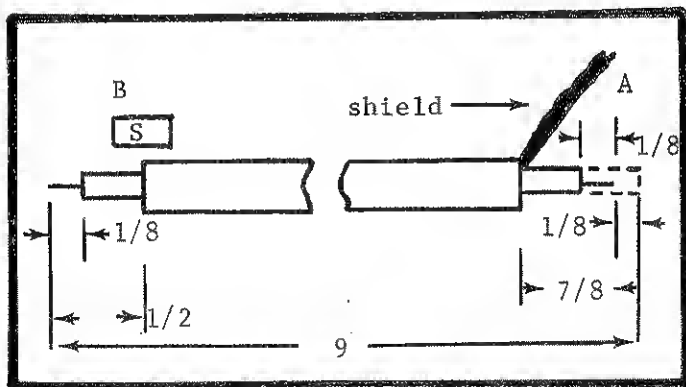

FIGURE 4. Dimensions for Cable #1 for Resistance Programing. Dimensions are in inches.
b. Prepare the 9 inch cable #1 as shown in Figure 4.
3. From end B cut off 1/2 inch of outer insulation and shield. Use 3/4 inch of shrink tubing over the end as shown in Figure 4. Cut off 1/8 inch of insulator, baring 1/8 inch of wire.